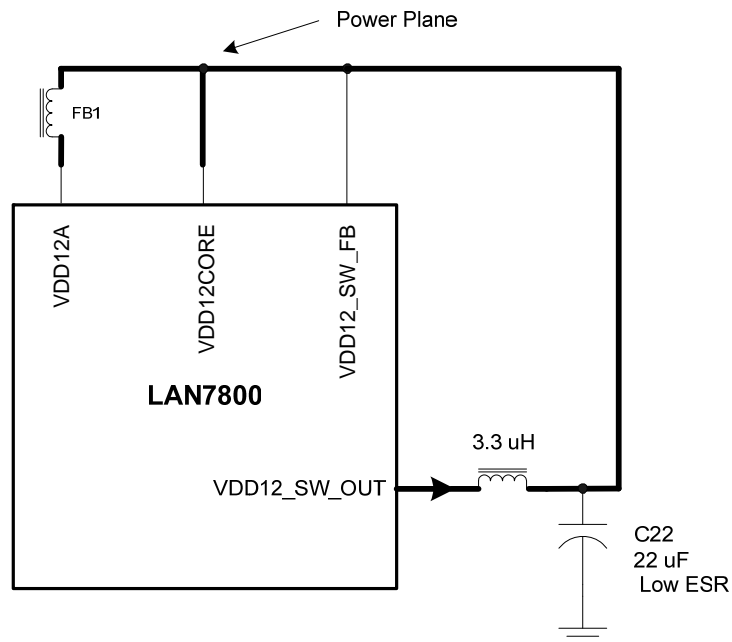

Figure 4 - LAN7800 +1.2V Power Connections
6. VDD12CORE (pins 21 & 42), these two core input power supply pins may be powered from the internal +1.2V switching regulator. In this application, these two pins should be connected directly to the 3.3 uH output inductor of the +1.2V switching regulator of the LAN7800. See figure 4 below for more details. These two pins can also be supplied from an external +1.2V power supply. In this application, the internal +1.2V switching regulator can be disabled.
8. VDD12A (pins 25, 30, & 44), these three pins supply power to the analog blocks (Gigabit Ethernet Phy & the USB PLL / AFE section) of the LAN7800 from the internal +1.2V switching regulator through a ferrite bead. Be sure to place bulk capacitance on each side of the ferrite bead. A 1.0 uF, low ESR cap is required on the pin 25, 30 & 44 side of the ferrite bead. In this application, the ferrite bead should be connected to the 3.3 uH output inductor of the +1.2V switching regulator of the LAN7800. See figure 4 below for more details. These three pins can also be supplied from an external +1.2V power supply. In this application, the internal +1.2V switching regulator can be disabled.